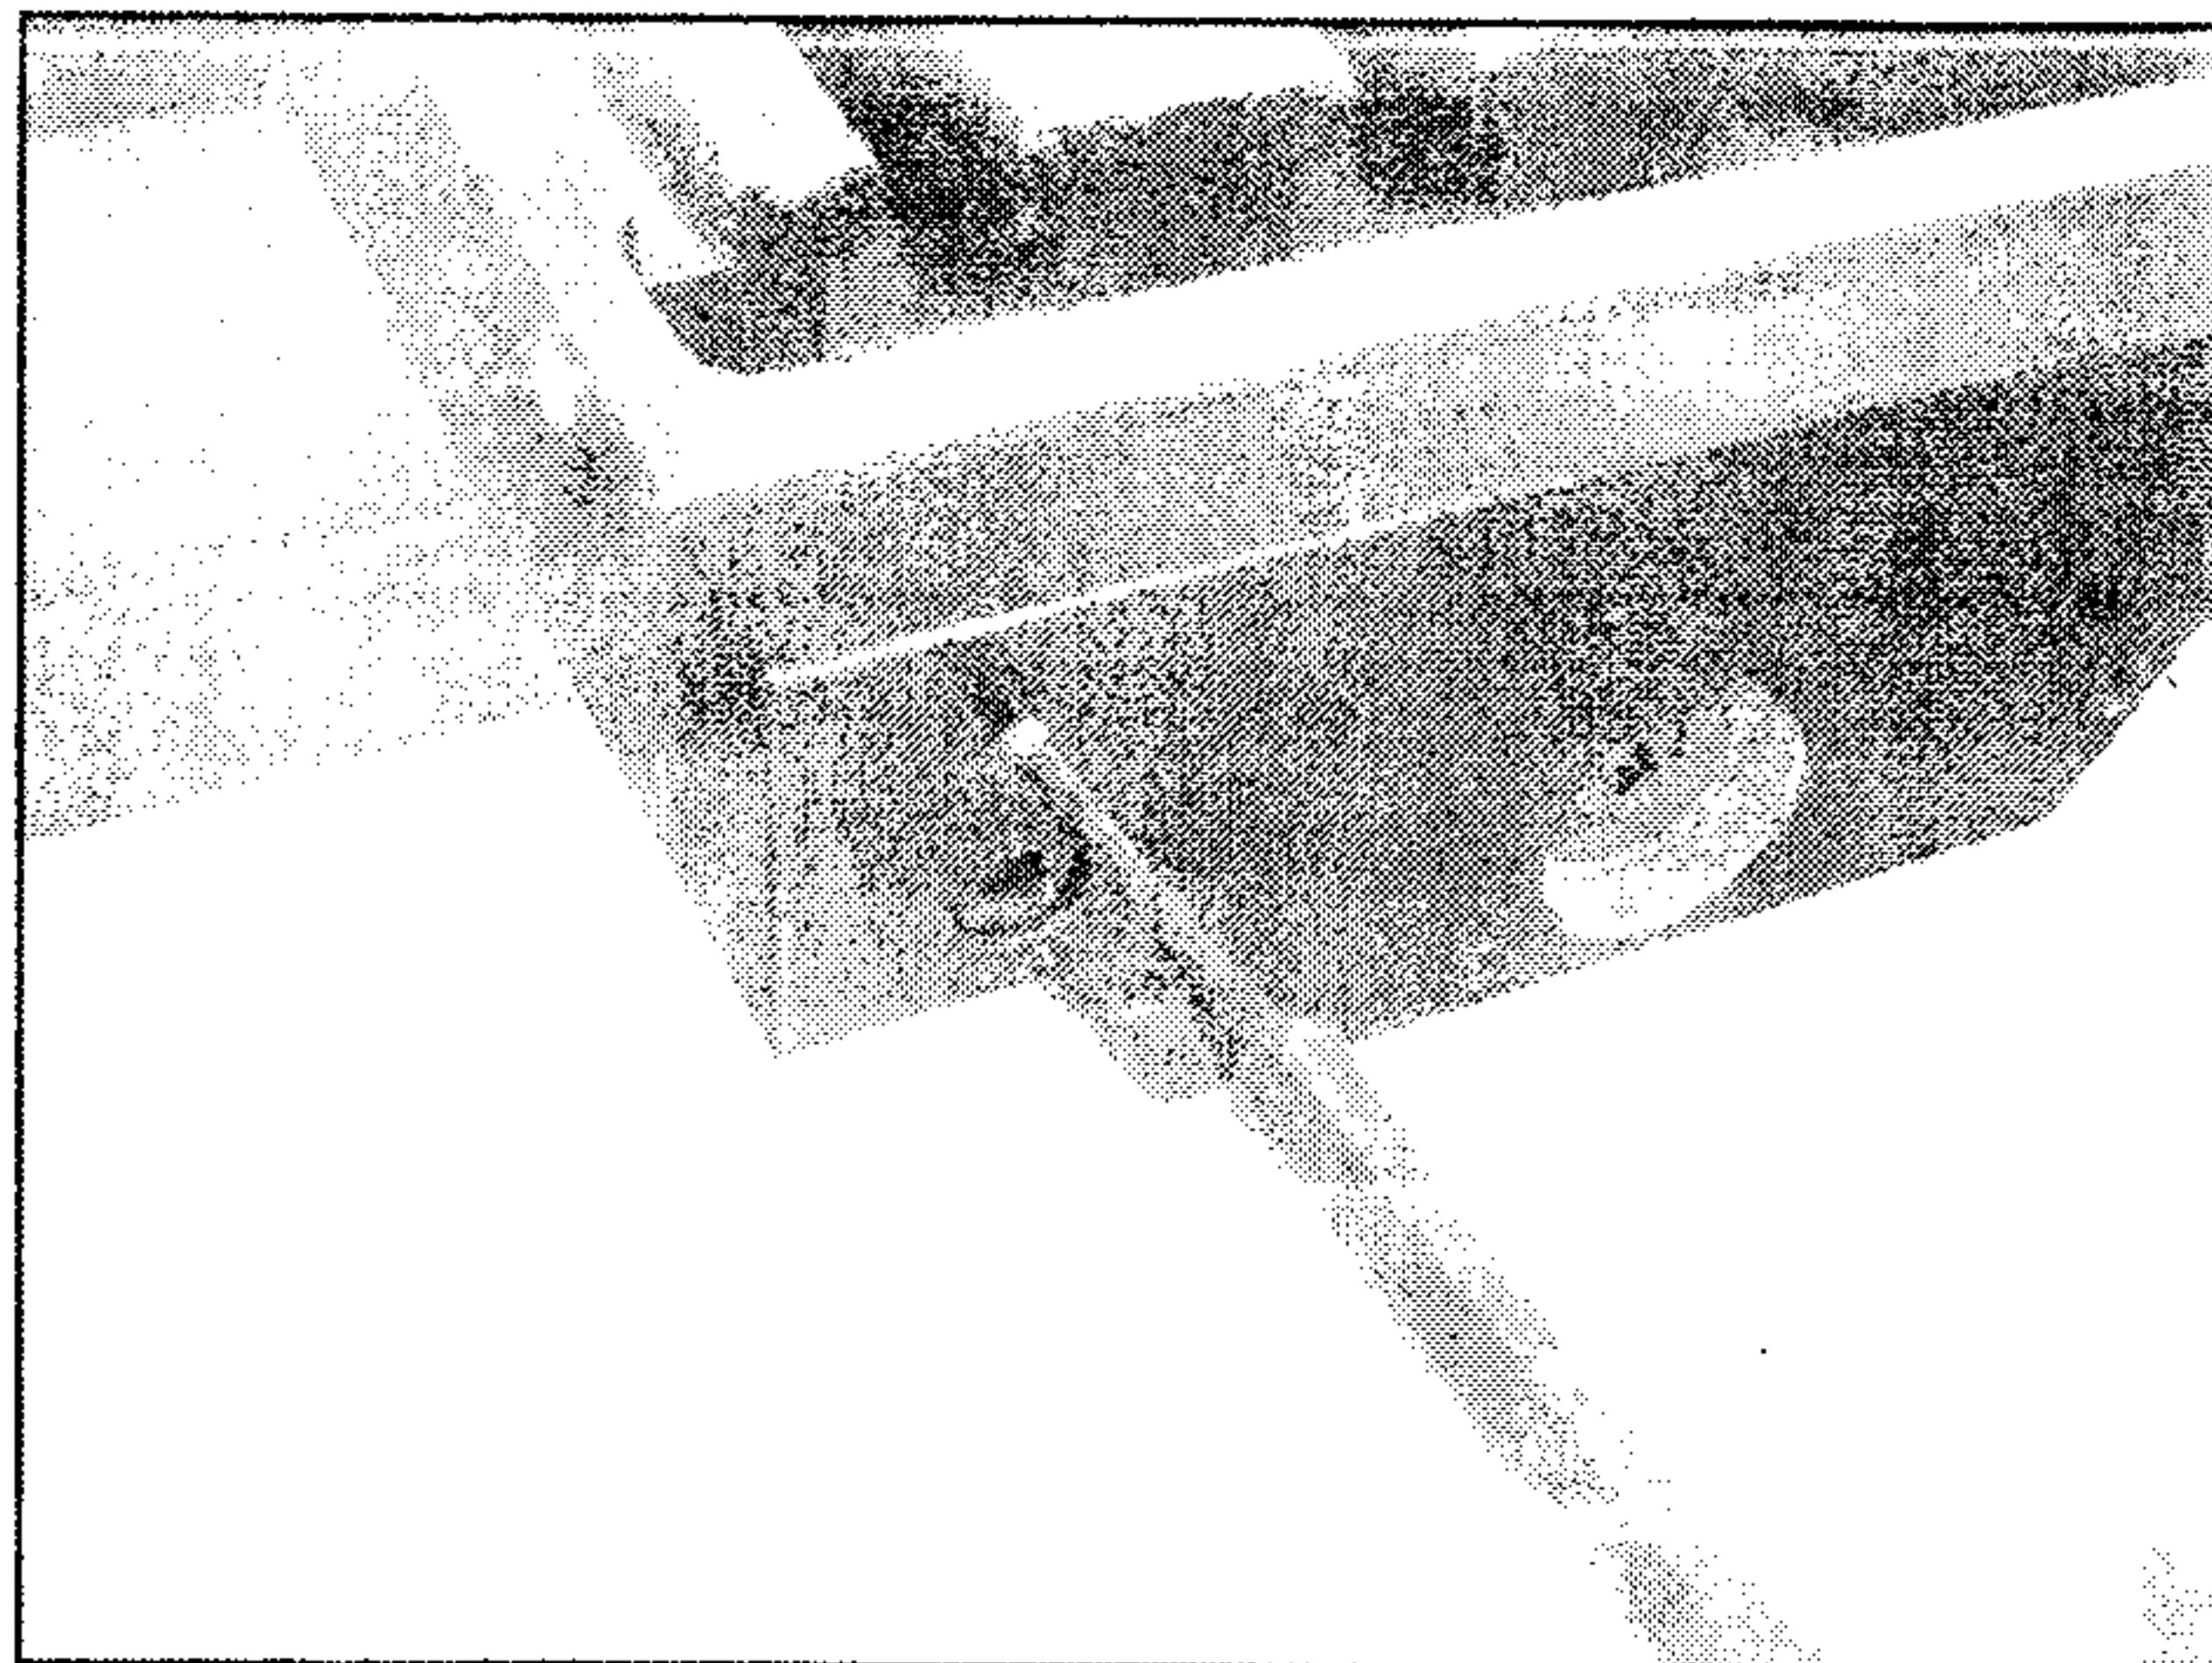

Figure 12. Pin reinstallation.
18. Reinstall the end plate, and drive the tapered pins in (Figure 12), so they are slightly recessed in the end plate face.